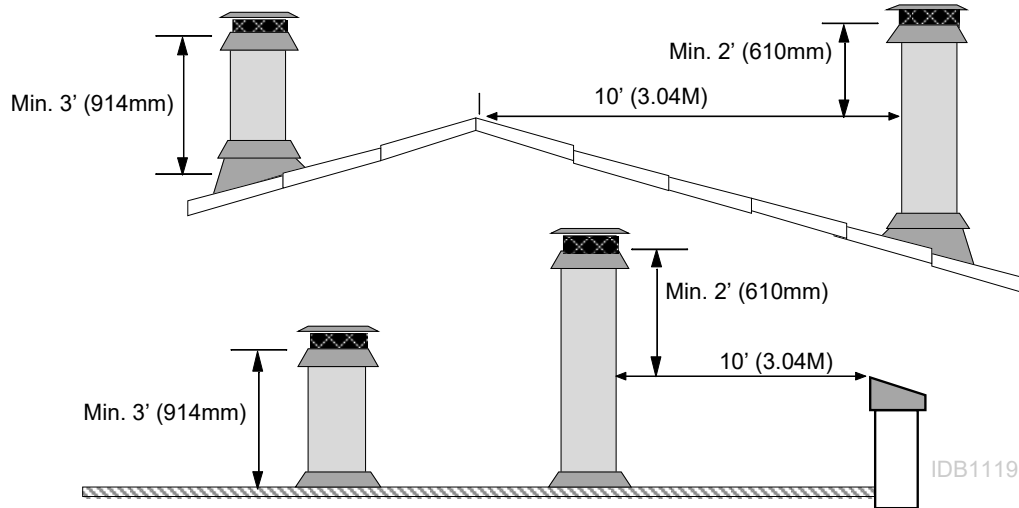

Figure 3
- Must terminate at least 3' above the roof and at least 2' above any portion of the roof within 10' (see Figure 3).